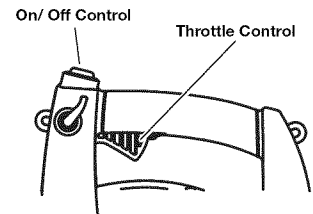

Fig. 8
NOTE: DO NOT squeeze the trigger while starting (Fig. 8).
2. Press and hold the On/Off Control switch in the OFF (O) position until the engine comes to a complete stop (Fig. 8).